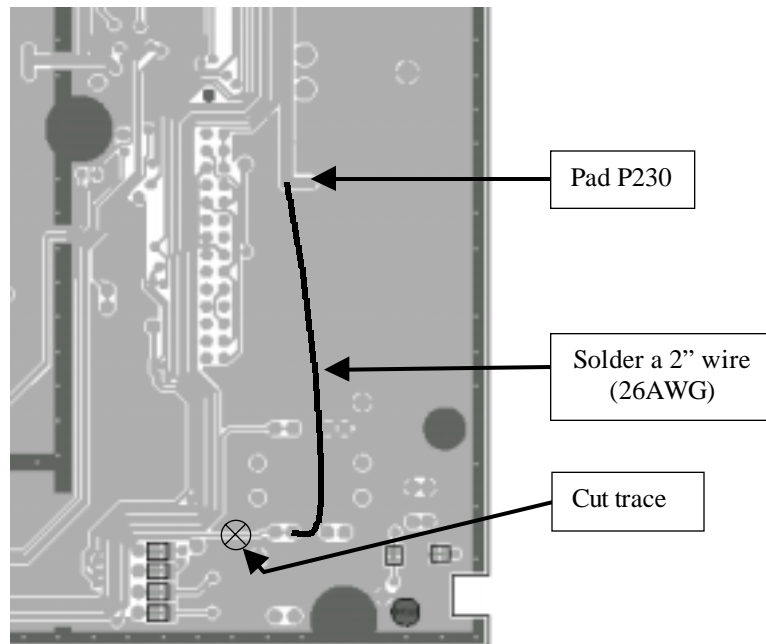

Figure 2- T857 Exciter PCB (rev 220-01398-(03A & 04)), Bottom side (EEPROM module) 2/2
5. On the bottom side, cut the trace between pin 1 of T210 and the pad going to pin 4 of DRANGE connector (PL100) Refer to Figure 2 page 5
6. On the bottom side, solder a 2" wire (26AWG) from the +9 volt feedthrough (pad 230) to pin 1 of T210. Refer to Figure 2 page 5